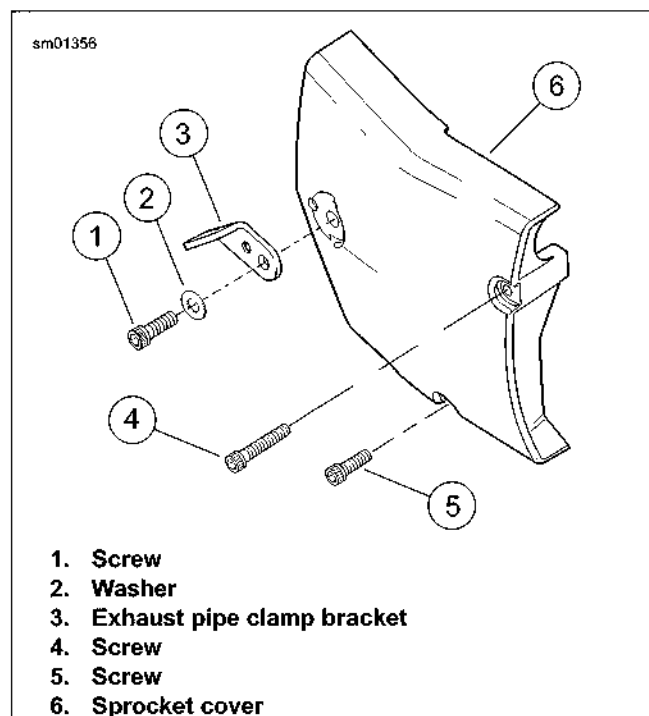
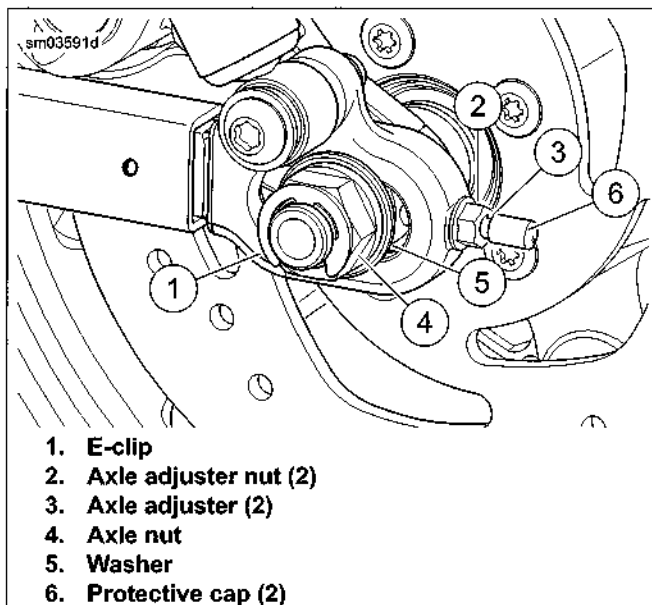

Figure 5-19. Sprocket Cover
Figure 5-20. Drive Belt Adjustment
3. See Figure 5-19. Remove screw (1), washer (2) and exhaust pipe clamp bracket (3).
4. Remove two screws (2, 3) and cover (1).
5. See Figure 5-20. Remove E-clip (1). Discard E-clip.
6. Loosen rear axle nut (4).
7. Turn axle adjuster nut (2) on each side of rear fork an equal number of turns counterclockwise to decrease belt tension.
See Figure 5-19. Short screw (5) goes in bottom hole. Long screw (4) goes in top hole. Do not tighten screws.
5. Install sprocket cover (6). Secure with two screws.
6. Install exhaust pipe clamp bracket (3), washer (1) and screw (1).
12. See Figure 5-20. Tighten rear axle nut (4) to 95-105 ft-lbs (129-142 Nm).
13. Install **new** E-clip (1).